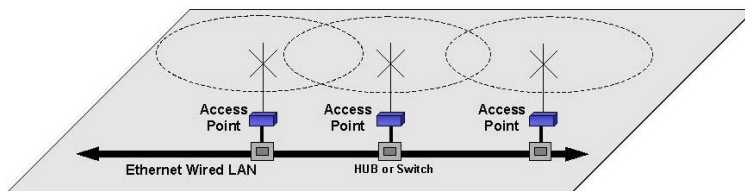

Figure 1: Conventional Access Point Diagram
With a conventional IEEE 802.11a Access Point (AP) network, all of the APs have to be interfaced to a common network either by hardwire, see Figure 1, or a separate, dedicated RF backbone. The Model 195Ea can create this RF backbone, bridge Ethernet networks connected to the wired Ethernet port and provide the wireless canopy for 195Ea clients simultaneously.